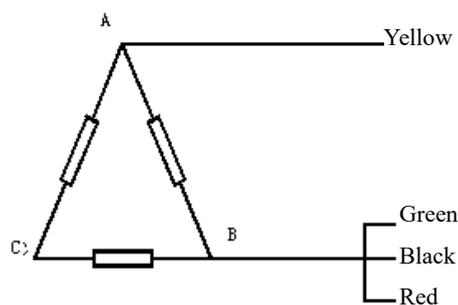

Figure 14 Wiring diagram in case of measuring phase A
2.2 Single-phase measurement (see Figure 14)